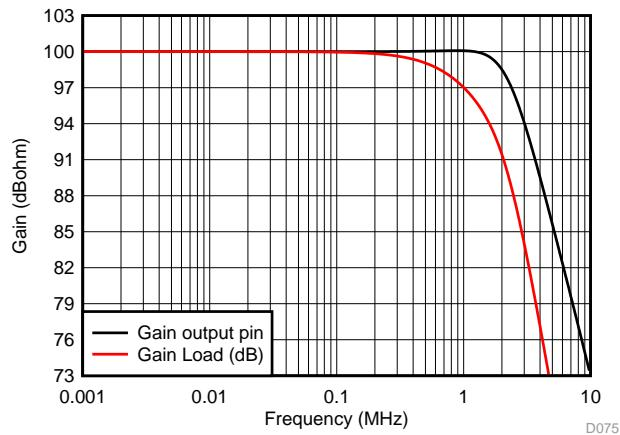

图 81. Small-Signal Response for 100-k Ω Transimpedance Gain
- Assume a nominal source capacitance value of 100 pF. This normally comes from the capacitance versus reverse bias plot for the photodiode. No reverse bias is illustrated in 图 81, but the current source is typically a back biased diode with a negative supply on the anode and the cathode connected to the op amp inverting input. In this polarity, the signal current sinks into the diode and raises the op amp output voltage above ground.
Implementing this design and simulating the performance using the TINA model for the response to the output pin and to the final capacitive load shows the expected results of 图 81. Here the exact 2.2-MHz flat Butterworth response to the output pin is shown with the final single pole rolloff at 1 MHz at the final 2.2-nF capacitor.